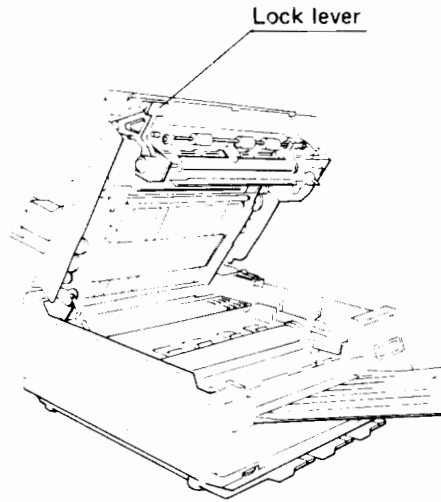

Figure 7-1 Opening the top cover
1. Turn the power off and open the top cover by pushing up on the cover lock lever and lifting the cover to its open position. Refer to Figure 7-1.